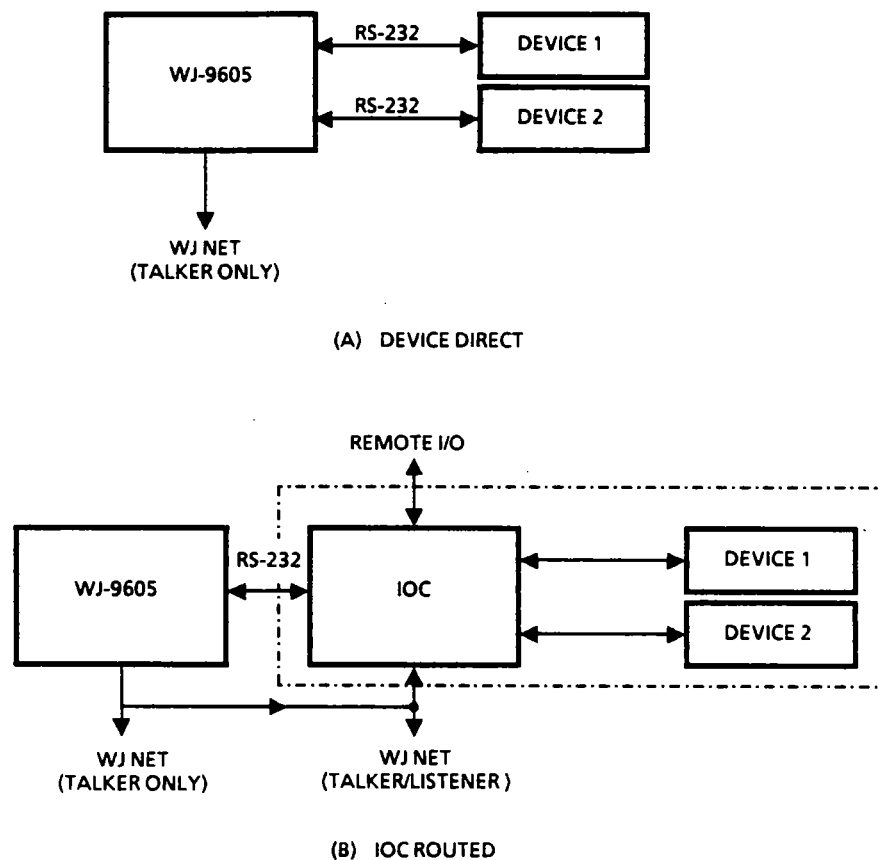

Figure 2-3. WJ-9605 Operational Configurations and WJ NET Operation
The WJ-9605 allows two types of I/O operations: device direct or IOC routed. Device direct operations occur when the WJ-9605 is interfaced with one or two devices via dedicated RS-232C interface links. See **Figure 2-3(A)**. IOC routed operations (**Figure 2-3(B)**) are those operations that occur when the WJ-9605 sends messages with attached addressing commands directly to an internal Remote Interface card or IOC card. The IOC card then routes the messages to the specified device. The selection of device direct or IOC routed operation is made by setting position 1 of DIP switch A1S1 on the Front Panel Controller card to the appropriate position (refer to **paragraph 2.2.4** for details).
Figure 2-3(B) shows an example of IOC routed operation in which the WJ-9605 is controlling the device via an IOC card. The WJ NET port present on the various types of equipment allows access to devices in other frames regardless of the type of operation. However, access to another frame is limited according to whether or not the equipment frame is configured with an IOC card.
In device-direct operation (**Figure 2-3(A)**), the WJ-9605 may control an external equipment frame via the WJ NET interface if the external frame has an IOC card installed. In this case, the WJ-9605 is merely substituting for the FPU on the external equipment, and "can talk" to the external equipment via the IOC card. However, since the local frame has no IOC card, the WJ NET port is one-way and no remote FPU can control the local equipment.
In IOC routed operation (**Figure 2-3(B)**), the WJ-9605 may talk to any external frame with an IOC card, just as in device direct operation. However, any external FPU may control equipment in the local equipment frame as well, and the WJ NET port is therefore two-way.